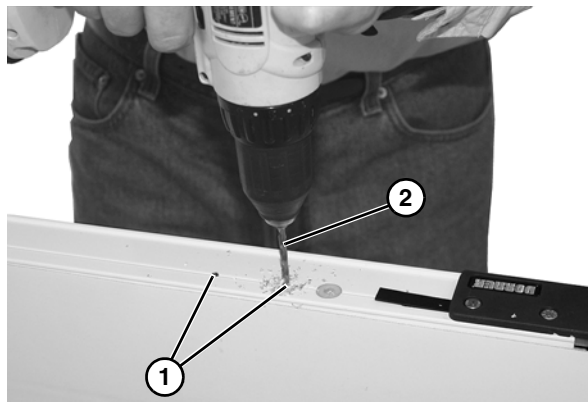

Figure 10
2. Drill the hole locations (**Figure 10, item 1**) with a 3/16" drill bit (**Figure 10, item 2**).